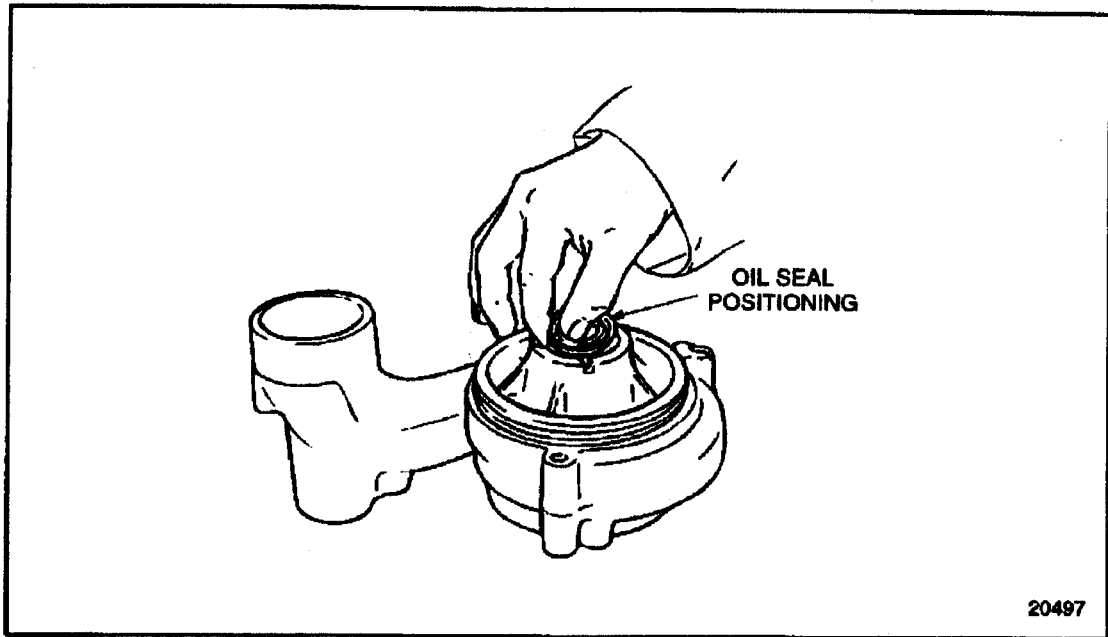

Figure 4-49 Oil Seal Positioning (FM)
2. Install the oil seal to the water pump housing from the rear (gear side). See Figure 4-49.